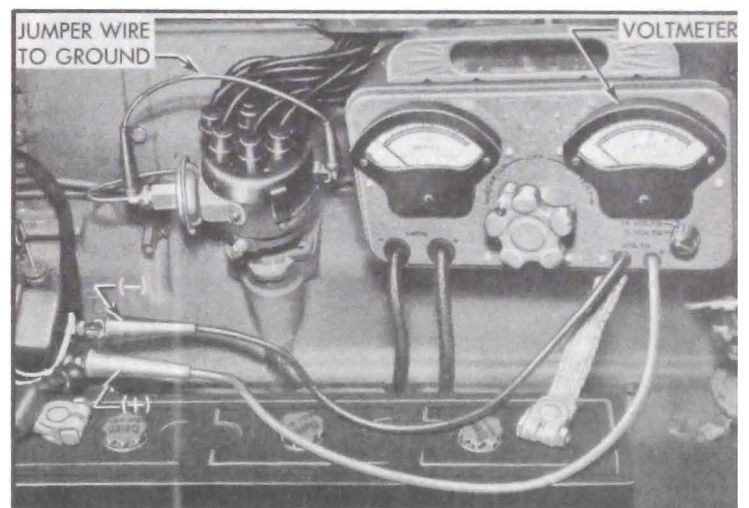

Figure 10-56—Solenoid Switch Contact Test Connections
6. Connect voltmeter negative (–) lead to the motor terminal of solenoid switch, and connect positive (+) lead to battery terminal of switch. Turn voltmeter switch to low voltage scale. See figure 10-56.